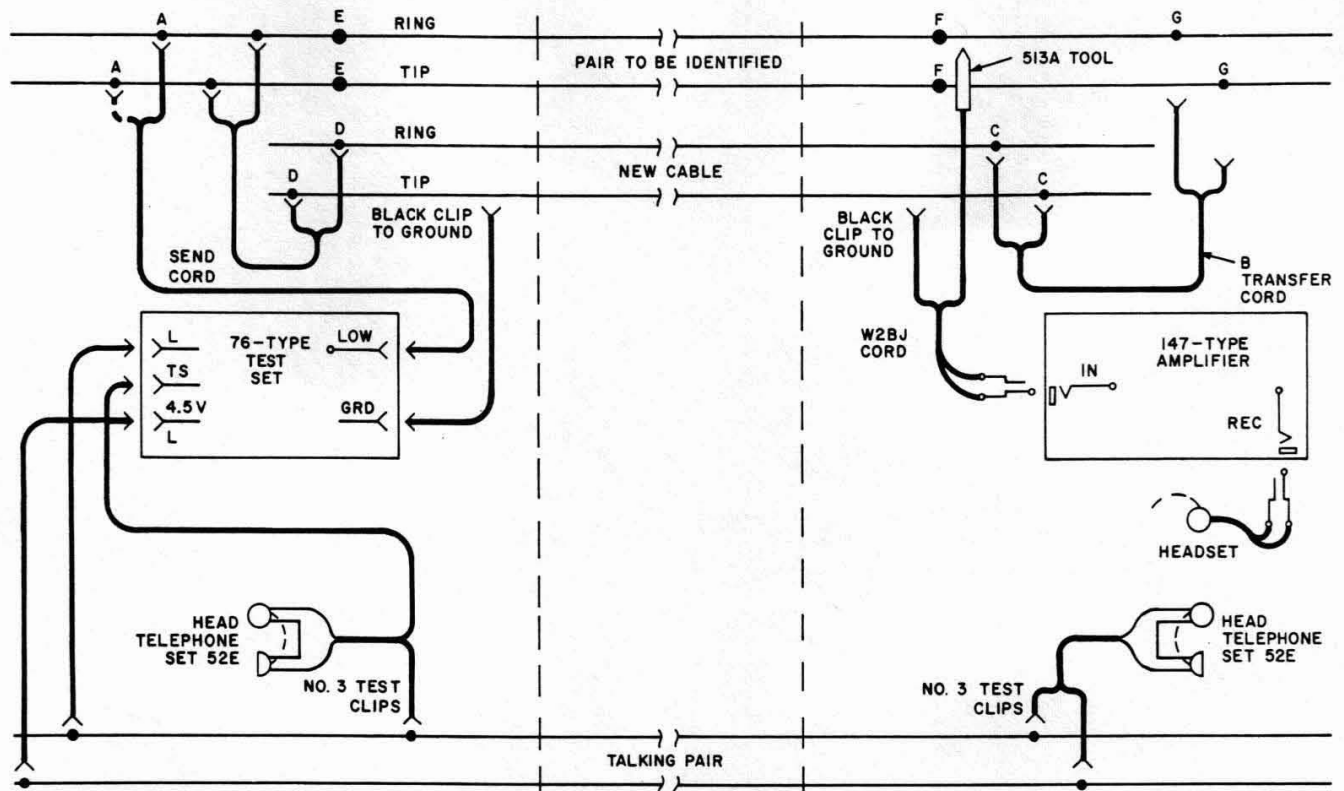

Fig. 5 — Audible Tone Method Arrangement Using 76-Type Test Set and 147 Amplifier
- (1) Make connections as shown in Fig. 5.
- (2) Select a pair in the old cable at point A and connect the *send cord* to the ring side of the pair. If the listening test indicates that the pair is spare or idle, send the signal tone and then the regular tone.
- (3) Identify the ring side of the old pair at point F and verify the ring side of the new pair at point C with the 513A Tool.
- (4) Connect the free end of the B Transfer Cord to the old pair at point G observing correct polarity.
- (5) Cut the tip and ring conductors simultaneously in the old cable at points E and F.
- (6) Trim and splice tip and ring conductors to new conductors one at a time.
- (7) Repeat (2) through (6) for each pair to be transferred.